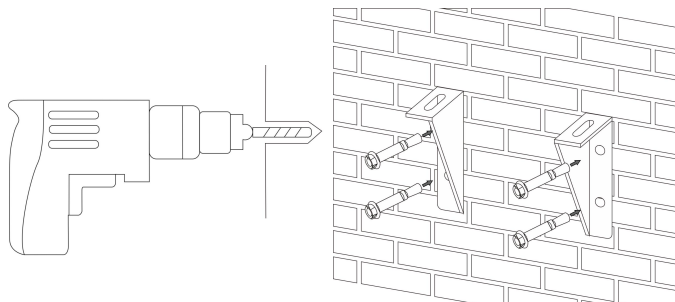

Figure 4-4
- c. Drill four holes with a diameter of 10mm and depth of 100-110mm into the wall using a drill. Fix the support to the wall with expansion bolts as shown in Figure 4-4.